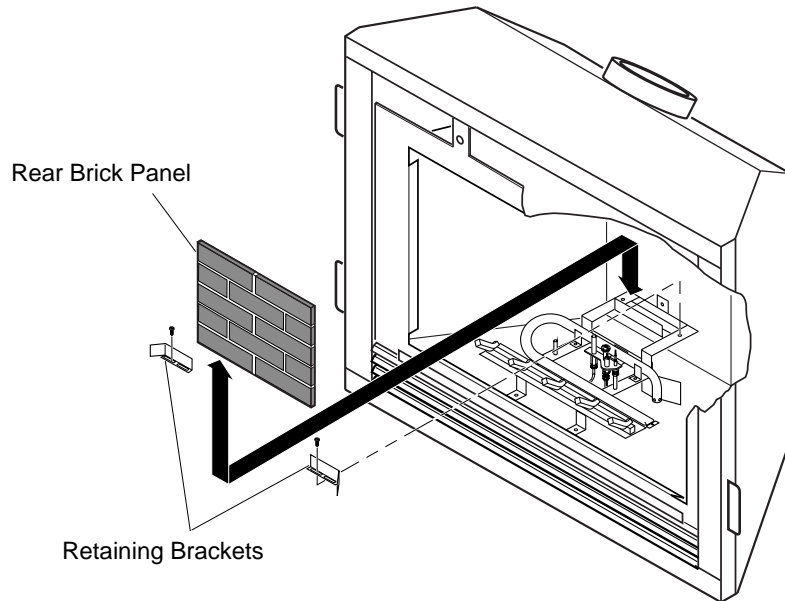

Figure 44 - Installing Rear Brick Panel and Retainer Brackets
3. Install rear brick panel first. Rest bottom edge of panel on back edge of grate (see Figure 44).